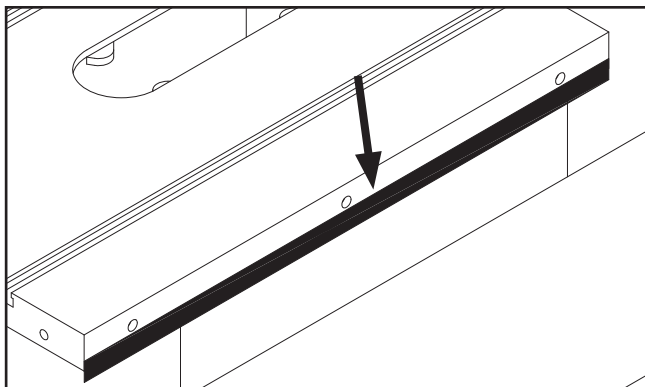

Figure 16. Masking tape location for tilting the extension table up.
- If outside end of extension wing tilts down, use strip of masking tape along bottom edge of main table to shim extension wing up (see **Figure 16**).